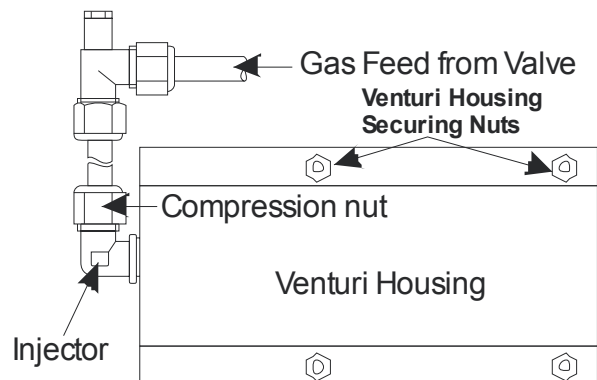

Figure 70
1. Undo the compression nut on the gas feed pipe to the injector (see **Figure 70**).